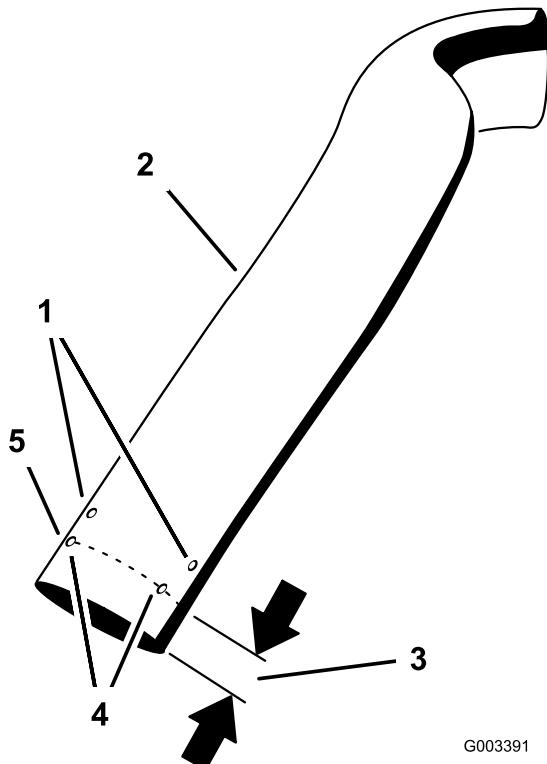

Figure 19
- 1. Measure up 3-1/2 inches (89 mm) from the bottom of the upper tube. Use the existing 3 holes as marks and then mark it in several places to create a line around the tube (Figure 19).
- 2. Cut the 3-1/2 inches (89 mm) off the upper tube (Figure 19).